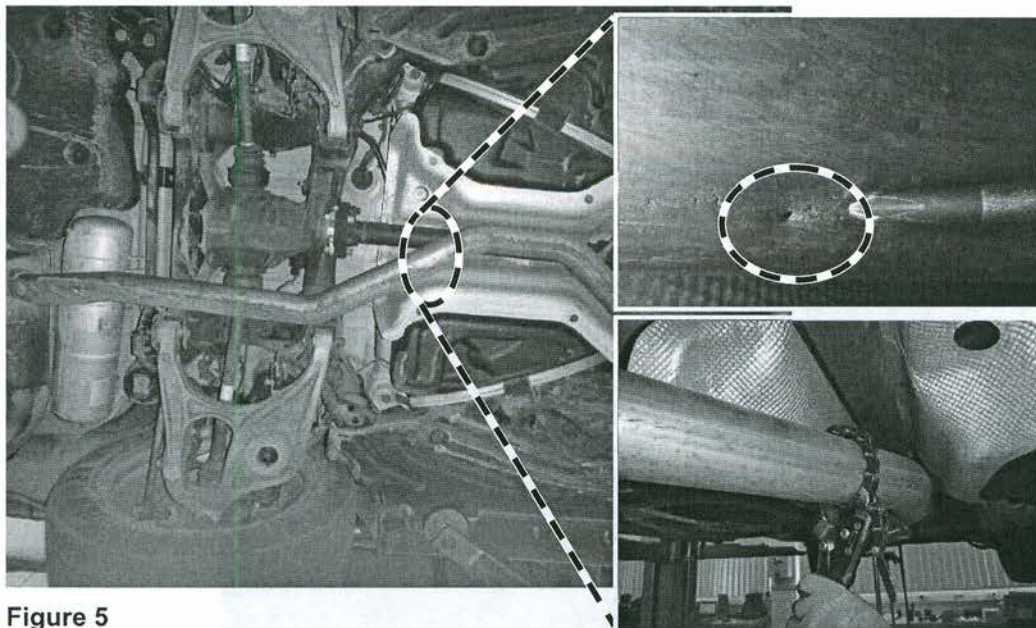

Figure 5
7. Using a chain pipe cutter, cut off the exhaust system tailpipe at a right angle to the muffler at the separating point that is marked by the stamped-in notch (figure 5).